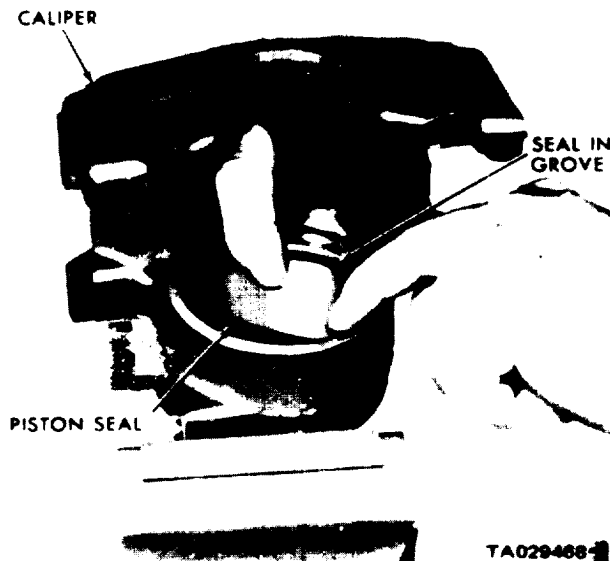

Figure 22-8. Installing Piston Seal.
(1) Clamp the caliper in a vise with protected jaws.
(2) Lubricate the new piston seal with clean brake fluid.
(3) Position the seal in the groove of the cylinder bore (figure 22-8).